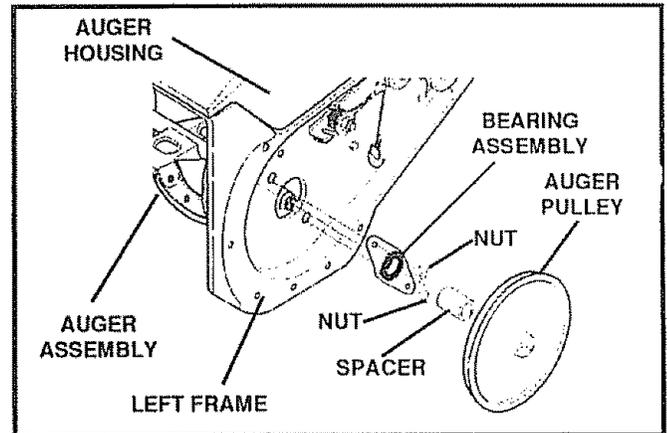

FIG. 16
- Remove the (3) screws from the access panel on the rear of the top cover.
- Remove the auger pulley (See Fig. 16) from the auger shaft (threads are left hand; turn clockwise to remove and place a piece of wood (2"x4") on the center paddle area to secure the auger to keep it from turning).
- Remove the bearing assembly from the left frame of snow thrower by removing the (2) nuts.